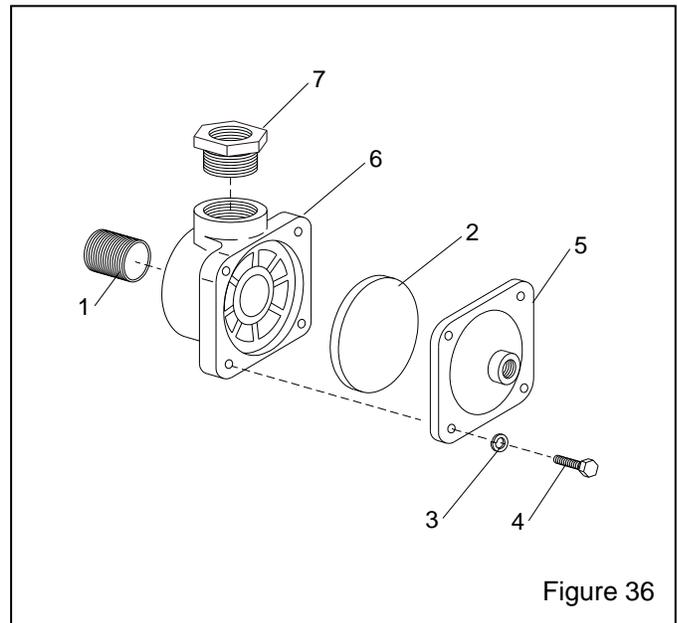

Figure 36
8.12 1" Diaphragm Outlet Valve, Figure 36